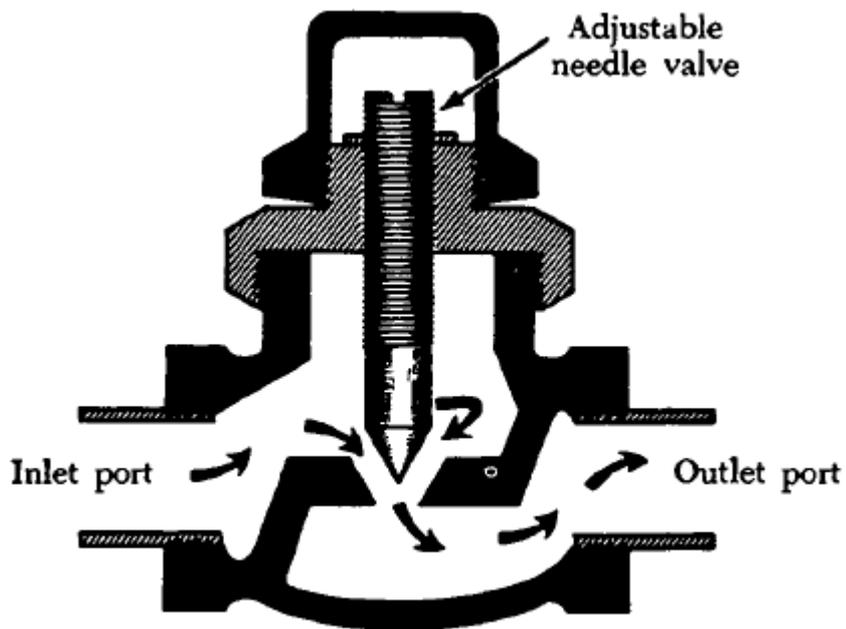

FIGURE 8-39. Variable pneumatic restrictor.
1. Another type of speed-regulating unit is the variable restrictor shown in figure 8-39.